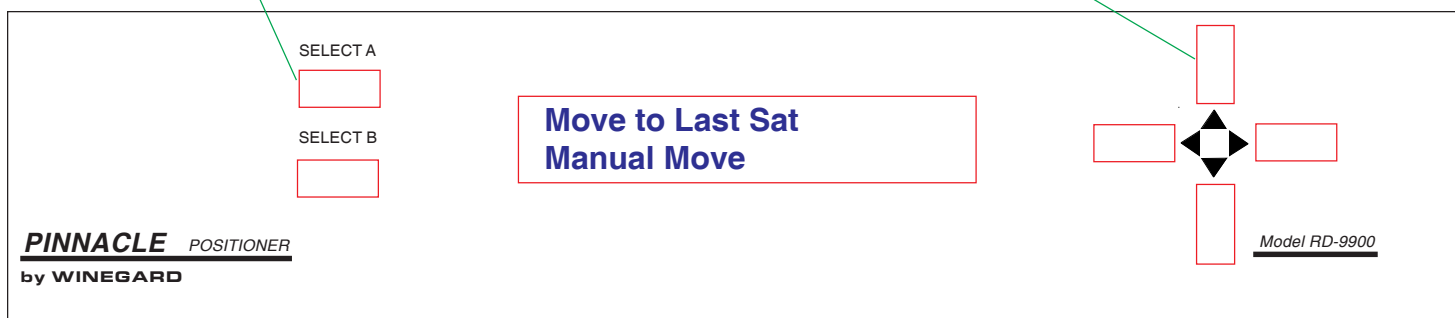

Figure 25
1. Press [UP/DOWN] arrow until **Move to Last Sat** is displayed on positioner. See Figure 25.
2. Press [SELECT A or B] **Move to Last Sat**, see Figure 25. The positioner will display the message **Moving to Satellite** while antenna is moving to last saved satellite position. When antenna stops moving, the system will acquire satellite signal (if you have not moved the RV/coach) and you will be watching TV!